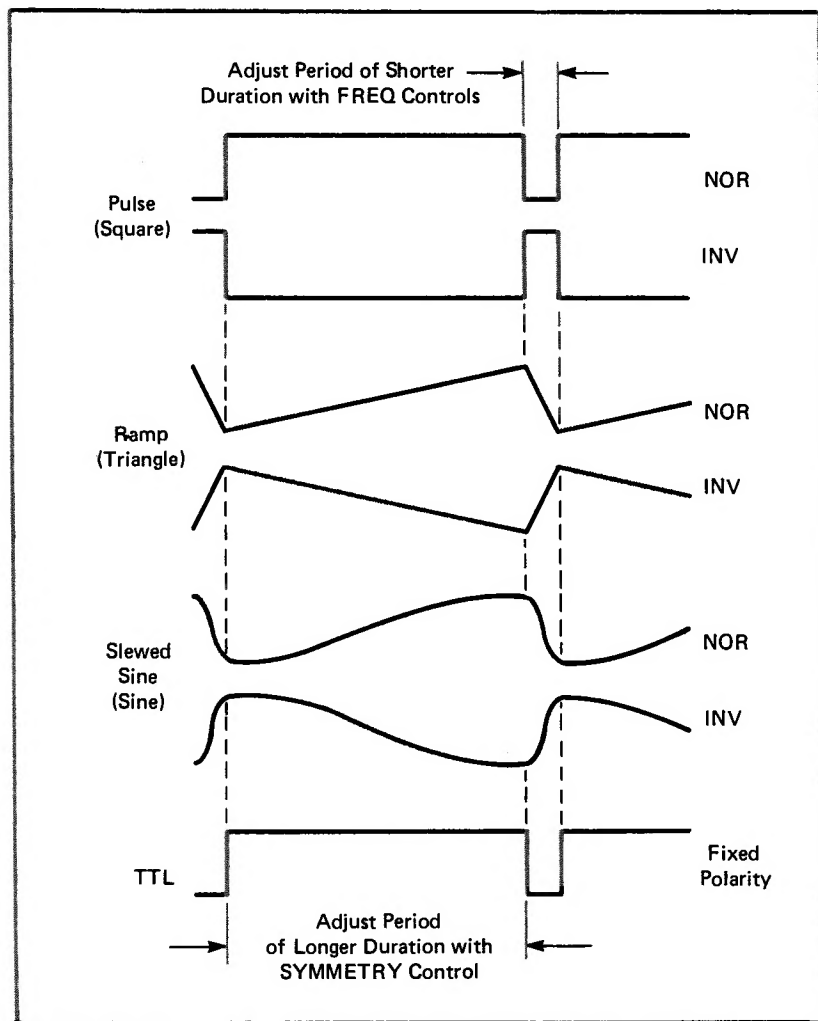

Fig. 5. Pulse, ramp, and slewed sine wave generation.
In a symmetrical square wave, sine wave, or triangle wave, the positive and negative transitions are of equal time duration, or 1:1 ratio. This is the condition when the **SYMMETRY** control is set to the **CAL** position. When the **SYMMETRY** control is rotated, the positive transition can be stretched in relation to the negative transition, up to at least 40:1 ratio. Square waves can be stretched into rectangular waves or pulses, triangle waves can be stretched into ramp or sawtooth waves, and sine waves can be stretched into a distorted waveshape called a slewed sine wave. An inverter allows either polarity output to be selected. Fig. 5 illustrates the types of waveforms possible and includes a summary of control settings used to obtain the desired waveform.
3. Select the desired polarity with the NOR/INV switch. See Fig. 5 for reference.